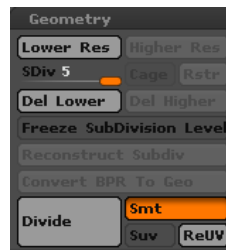

Figure 3-58 Choosing the **Divide** button from the **Geometry** subpalette
12. Expand the **Geometry** subpalette in the **Tool** palette. In this subpalette, click twice on the **Divide** button; the value of the **SDiv** slider becomes equal to **5**, refer to Figure 3-58, and the *turtle shell* becomes smoother.